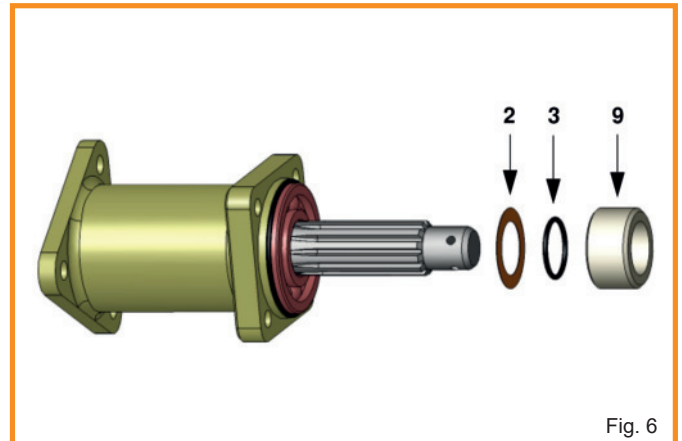

Fig. 6
- Slip the shim (**only swing axle**) (Pos.2, Fig.1), the O-ring (**only swing axle**) (Pos.3, Fig.1) and the wheel bearing spacer (Pos.9, Fig.1) on the axle shaft as shown in the picture Fig.6.